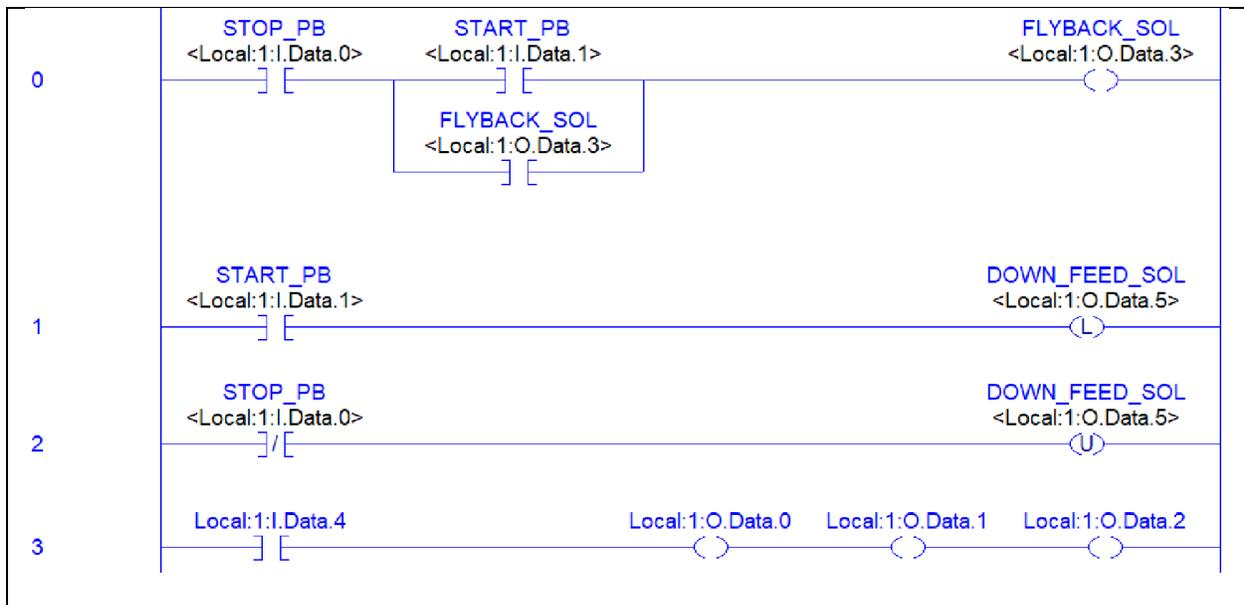

Figure 4. Main Routine Program with Additional Rung.
1. Go Offline to the processor, and add a rung 3 to the program as shown in Figure 4. Notice that this rung is using all Base Tags (no Alias tags). Also, the OTEs are in series instead of parallel, which is quite different from a legacy controller.